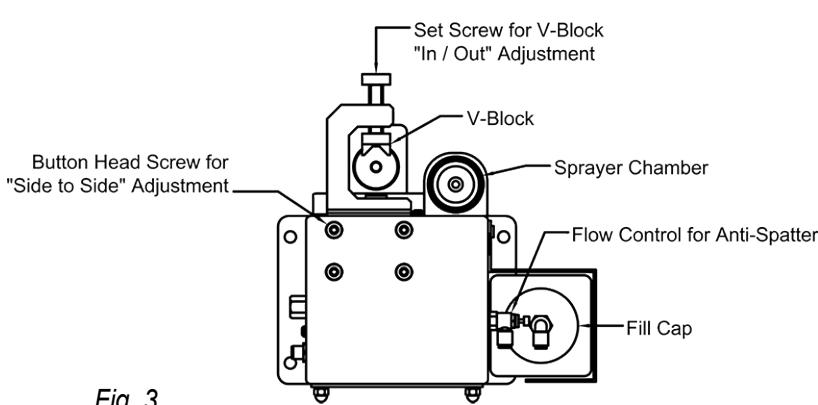

Fig. 3
1. Correct alignment of the welding nozzle is critical to the proper operation of the unit. The clamping V-Block must be adjusted according to the nozzle diameter, so as to center the nozzle above the reamer when the clamp is closed. The V-Block is adjusted by turning the set screw behind the V-Block in or out as shown in Fig. 3.
2. The “side to side” alignment of the clamping unit with respect to the reamer is set at the factory and normally will not require adjustment. However, if realignment is necessary, the entire clamping unit can be moved from “side to side” by loosening the (4) socket head cap screws located on the inside of the nozzle cleaning station holding the clamping cylinder to clamping block assembly.
1. Anti-Spatter solution is added to the unit by removing the fill cap on top of the bottle (see Fig. 3). The bottle capacity is approximately 1 quart.